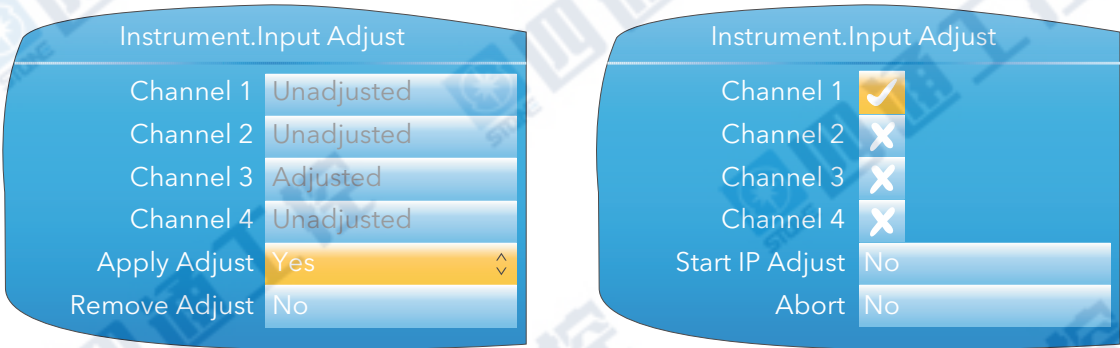

Figure 4.1.8b Channel adjustment procedure (1)
- 1. As shown in figure 4.1.8b, highlight the 'Apply Adjust' field, and operate the scroll key to enter edit mode. Use the up or down arrow key to select 'Yes'. Use the scroll button to change Channel 1 'cross' to a 'tick' (check mark). Similarly select any other channels which require adjustment.